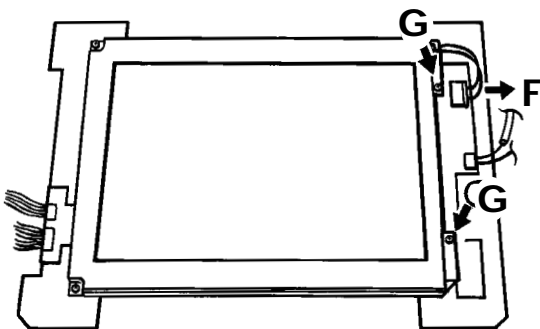

Figure 3a Display removal (1)
- 1 Turn the display unit over and orient it as shown in figure 3a.
- 2 Disconnect the backlighting connector ('F' in figure 3a).
- 3 Undo the two securing screws ('G' in figure 3a)